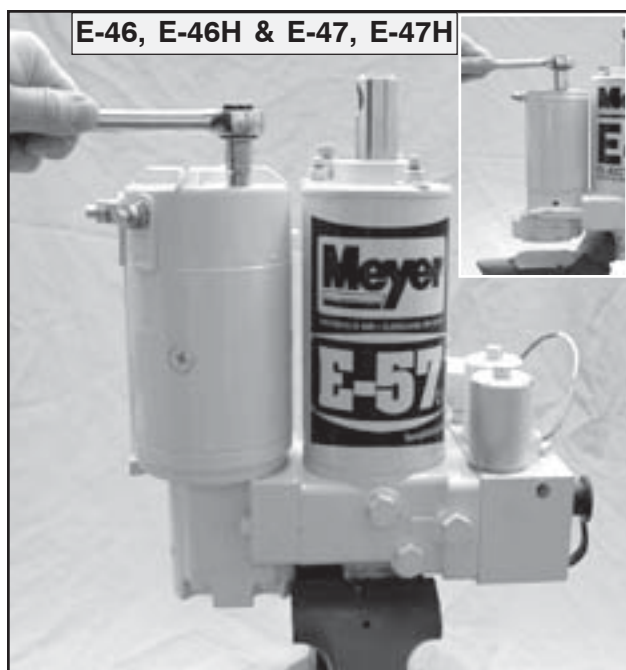

FIGURE 3-4
1. Remove motor as shown in Figures 3-4 and 3-5 (page 34).